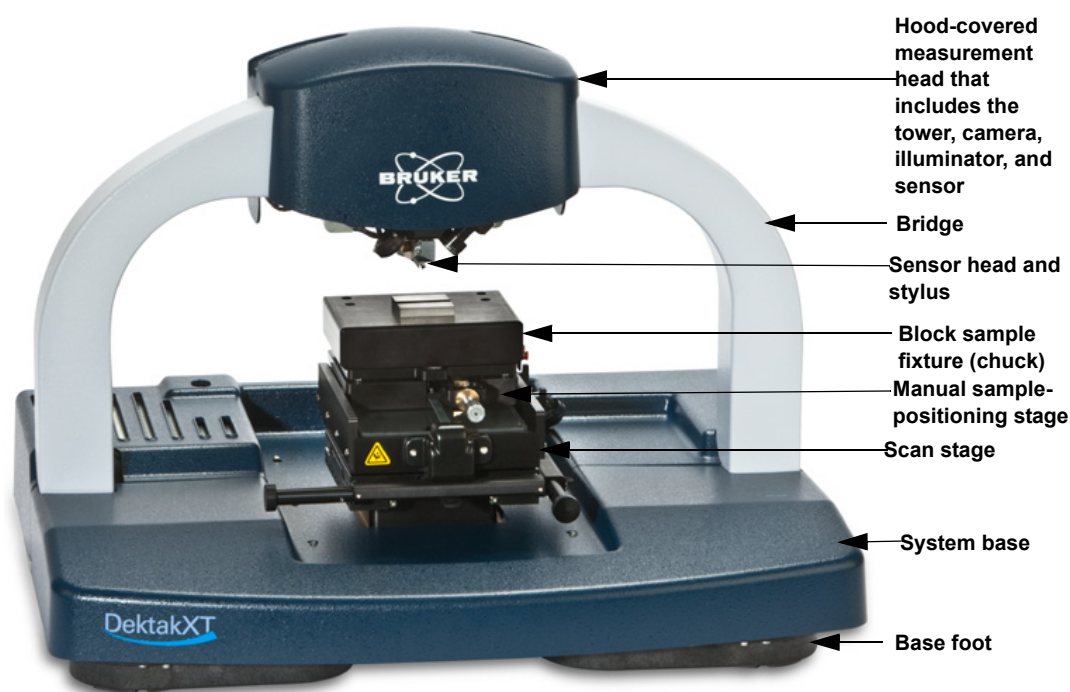
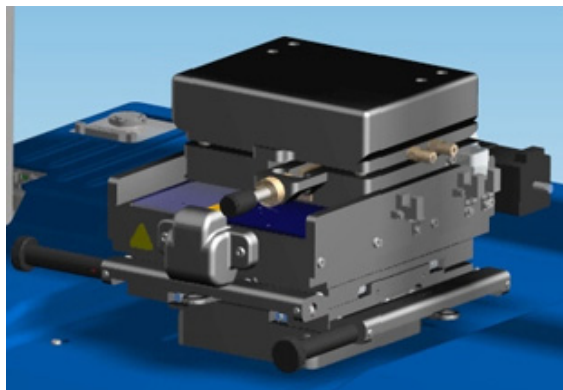
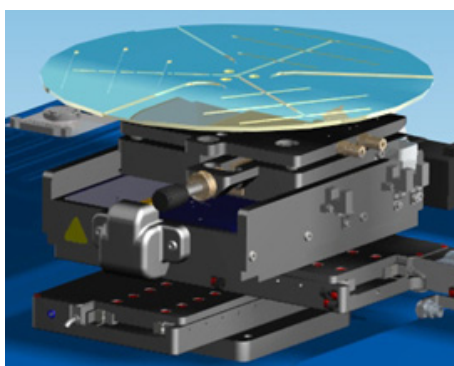
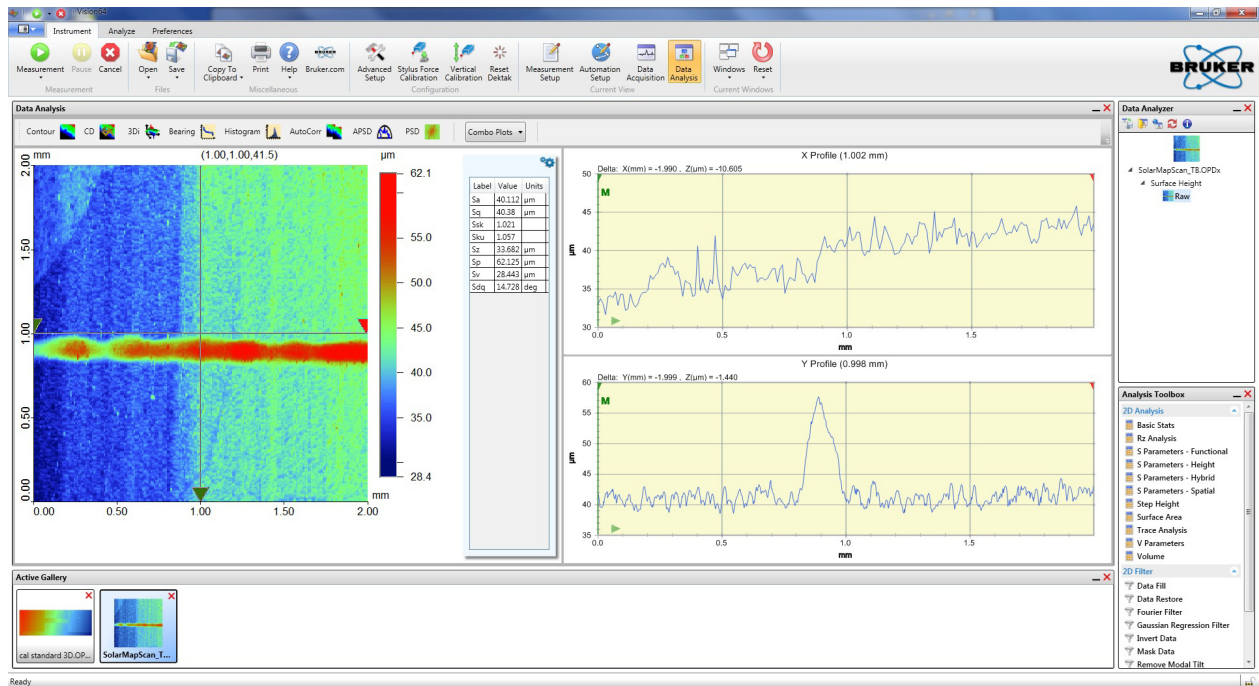

Figure 2-1: DektakXT Stylus Profiler with the Standard Manual X-Y Sample-Positioning Stage
Figure 2-2: Standard Manual Sample-Positioning Stage with Square Base Platform Fixture
Figure 2-3: X-Y Auto Stage with Wafer Vacuum Sample Fixture (Chuck)
Figure 2-15: 2D Contour Plot Generated with the 3D Mapping Option
The DektakXT[®] stylus surface profiler is an advanced thin and thick film step height measurement tool. In addition to profiling surface topography and waviness, the DektakXT system measures roughness in the nanometer range. Available with a standard manual sample-positioning stage (see Figure 2-1) or an optional automatic X-Y or theta stage (see Figure 2-3), it provides a step-height repeatability of 5 Å (<0.6 nm).
- **The standard 2-D DektakXT system**, which includes a two-axis, manual sample-positioning stage with 101.6 x 101.6 mm (4 x 4 inches) of X-Y translation, manual leveling, two-point programmable or cursor software leveling, and manual theta rotation (see Figure 2-2). This standard stage accommodates samples up to 50 mm (1.9 inches) thick and performs long scans of 55 mm (2.16 inches). It provides ± 50.8 mm (2 inches) of X-Y translation as well as manual theta positioning (see Figure 2-3). The standard system is available with 50 mm (1.97 inch), 100 mm (3.94 inch), and 150 mm (5.90 inch) wafer alignment pins, along with one of the following sample fixtures (chucks):
- **The 3D Mapping and Automation Options**, which include an X-Y auto sample-positioning stage (see Figure 2-3). In addition to 3D mapping (see Figure 2-15), these options provide automation and programmability of up to 200 sites on samples of up to 150 mm (5.90 inches) in diameter. The X-Y auto sample-positioning stage includes one of the following sample fixtures (chucks):
As shown in Figure 2-1, the DektakXT stylus surface profiler system contains all of the mechanical, electrical, and optical components for sample positioning, sample viewing, and scanning/measurement. As described in Stage Configurations on page 2-2, the system can be configured with a manual or X-Y auto stage. Its sturdy single-arch bridge design reduces sensitivity to adverse environmental conditions.
The hood-covered measurement head shown in Figure 2-1 houses a USB video camera and an LED illuminator to assist the operator in feature location and stylus centering. The live video output of the camera provides feedback to the operator during a scan measurement.
A diamond-tipped stylus (see Figure 2-3) attached to the sensor head permits accurate two-dimensional surface profiler measurements in a wide range of applications. In standard configuration, user-programmable stylus force from 1 mg to 15 mg allows profiling on soft or hard surfaces.
- The 3D Mapping Option that enables true 3D-mapping (see Figure 2-15), calculates the bearing ratio, and performs many other analyses.